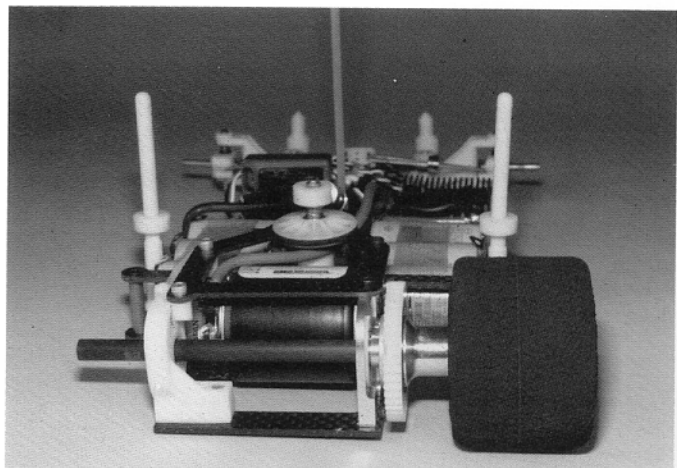

**Fig. 66**
□ **Figs. 66 & 67**—Slip the wheel on the axle. Now slip the tapered aluminum spacer on next, so that the smallest tapered end goes on first. Now slip the three tapered Belleville washers on next, so that the taper is pointing to the outside. Screw the nylon nut on and tighten by hand. Hold the axle in your left hand. Turn the wheel with your right hand. It should turn freely. If it doesn't, the drive rings are misaligned. We'll adjust the diff later.